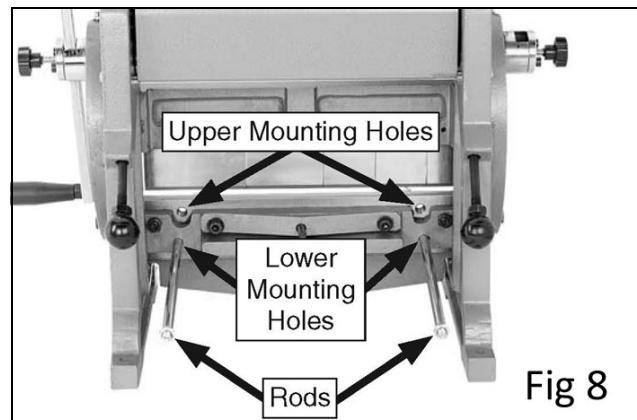

Fig 8
3. Thread the rods into either the upper or lower mounting holes, as shown in Figure 8. Only hand-tighten the rods.